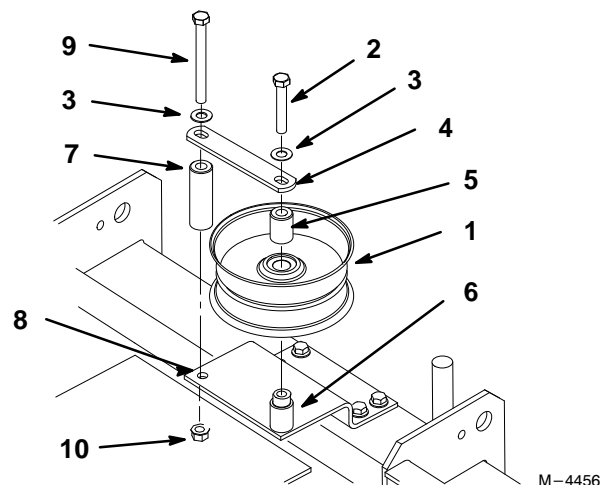

Figure 4
1. Install pulley onto the idler bracket mounting stud (Fig. 4).
2. Install bolt (3/8" x 2-1/4") into spring disk washer, belt guide plate and short spacer. Install into the center of mounting stud. Do not tighten (Fig. 4).
3. Place belt into idler assembly with back side of belt toward idler pulley (Fig. 4).
4. Install bolt (3/8" x 3-3/4") into spring disk washer, belt guide plate, long bracket spacer and hole in idler bracket. Install nut onto bolt (Fig. 4).
5. Tighten both bolts (Fig. 4).